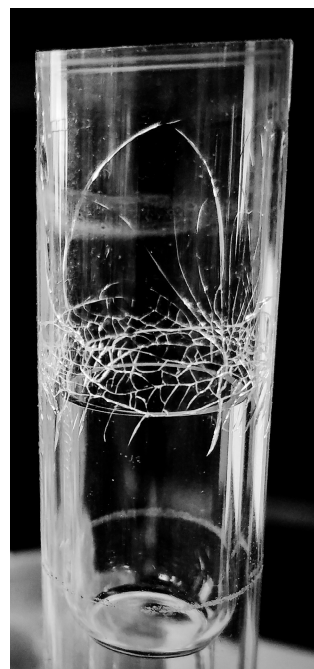

Figure 4. Spider-web cracking in a quartz vessel.
When analyzing volatile and semivolatile organic solvents, conventional quartz outer tube-sets can suffer from solarization caused by intense deep ultraviolet (UV) radiation generated from the high plasma temperature. Impurities in the quartz, such as metals, absorb the UV energy, inducing localized devitrification. These effects weaken the quartz surface, leading to spider-web cracking (Figure 4) as the torch is heated and cooled. This means a shorter usable lifetime.